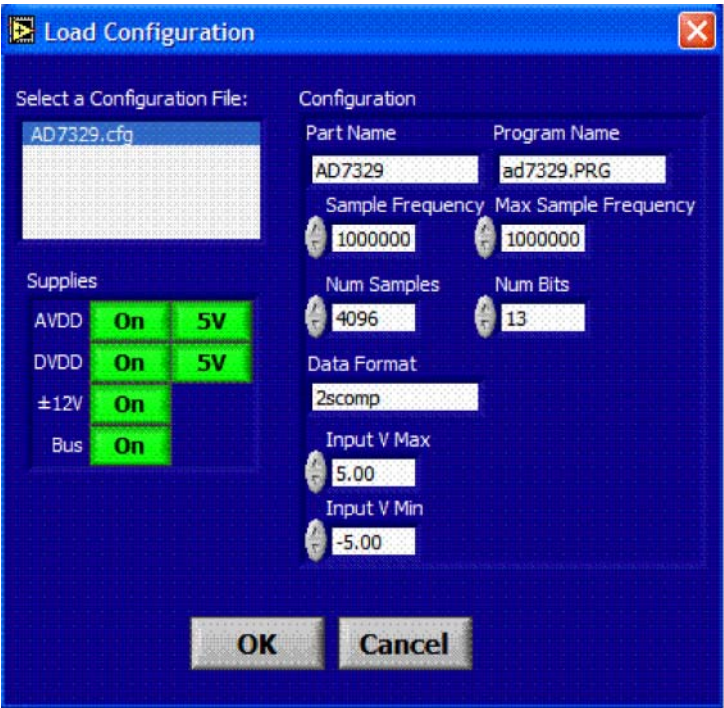

Figure 4. AD7329 Evaluation Software, Load Configuration Dialog Box
- Click **Device Select** to open the **Load Configuration** dialog box (see Figure 4) and to load a configuration file.
The **Load Configuration** dialog box allows users to load the required configuration file for the evaluation board (see Figure 4). The configuration file gives the software detailed information about the AD7329 evaluation board, and the part connected to the EVAL-CONTROL-BRD2, such as the number of bits (**Num Bits**), the maximum sampling rate (**Max Sample Frequency**), the output coding, and the power supply requirements. The configuration file also tells the software the names of the DSP program file that it should download to the EVAL-CONTROL-BRD2. The **Load Configuration** dialog box also allows the user to choose the sampling frequency (**Sample Frequency**) and the number of samples (**Num Samples**) to take.
When running the software, click the **Device Select** button. This displays the **Load Configuration** dialog box (as shown in Figure 4). The **Select a Configuration File:** list located on the top left of the **Load Configuration** dialog box lists the available configuration files. The configuration files are text-based files that contain information about the particular evaluation board to be tested. The file covers the **Part Name**, number of samples (**Num Samples**) to be taken, number of bits (**Num Bits**), default and maximum sampling frequency (**Sample Frequency** and **Max Sample Frequency**), power supply settings (**Input V Max** and **Input V Min**), and **Data Format**. The configuration file also contains the names of the DSP code \*.prg that is to be downloaded to the EVAL-CONTROL-BRD2. The user should select the relevant configuration file and click **OK**. The EVAL-CONTROL-BRD2 is reset, and the DSP program is downloaded. When the download is completed, the power supply settings indicated in the configuration file are set, and the user may hear some of the relays clicking. The selection windows (for example, **Num Samples** and **Sample Frequency**) is set to the default values specified by the configuration file. However, the user is free to change these at will.